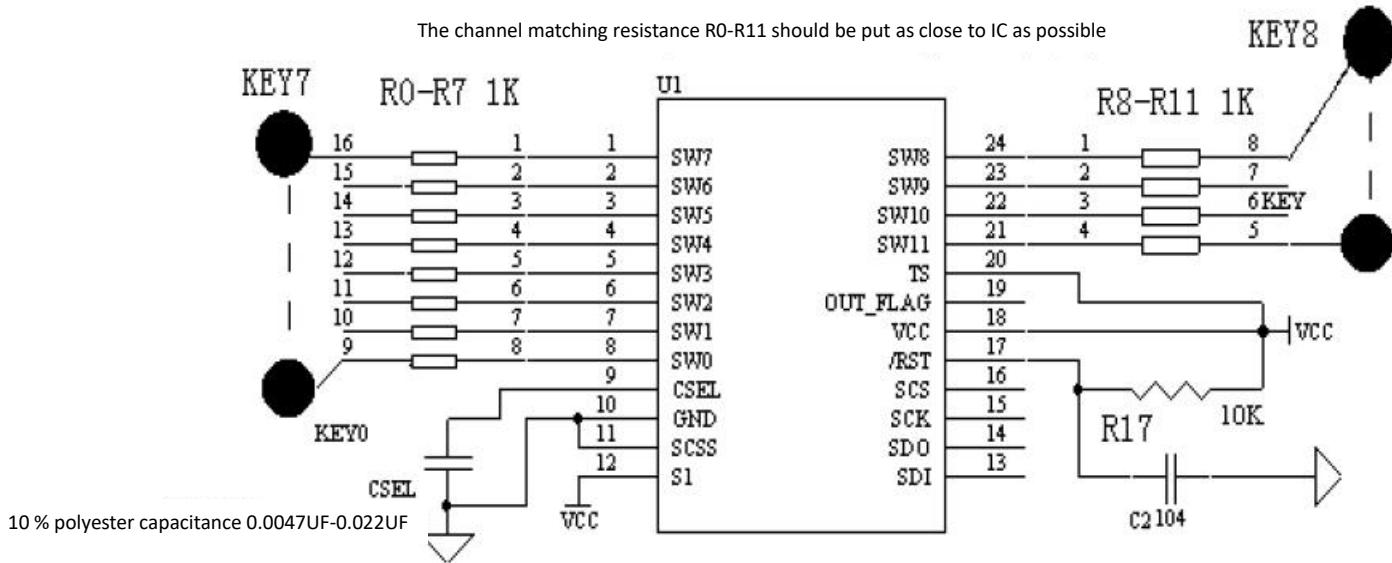

Figure 5: Application schematic diagram of WTC6312BSI(W) under the single key working mode
Figure 5 is the application circuit diagram of WTC6312BSI(W) of WTC6312BSI(W) work under the multicity combination of 12 keys (SHIFT) mode
Figure 5 is the application circuit diagram of WTC6312BSI(W) working under the 12 keys single key working mode